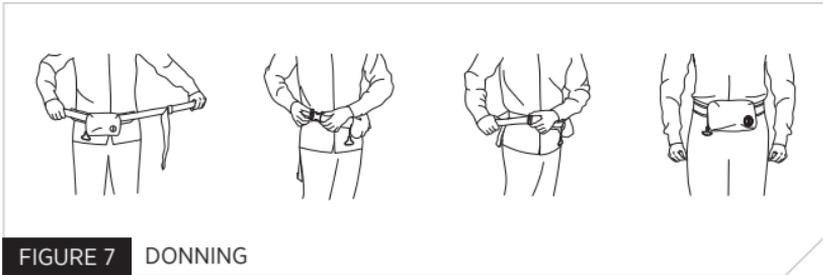

FIGURE 7 DONNING
1. Put the flotation device on around the waist and fasten the buckle (see Fig. 7).